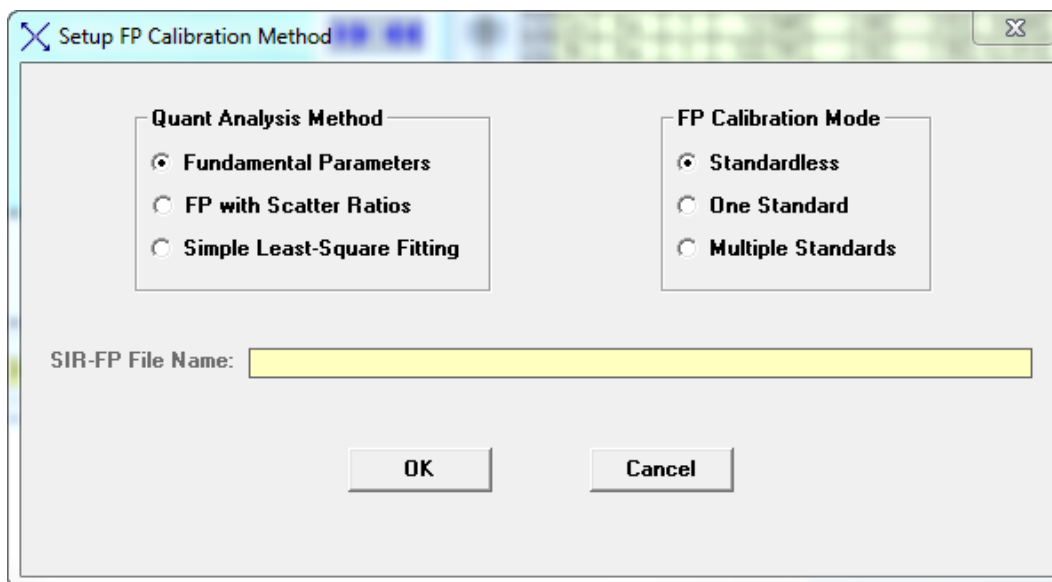

Figure 14. Setup Quant Dialog. Select the “Fundamental Parameters” method and the “Standardless” mode.
- Then select: **Setup -> Quant** from the XRS-FP Expert Panel. Check that the radio button for the “Quant Analysis Method” is set to “Fundamental Parameters” (FP) and the “FP Calibration Mode” is set to “Standardless” (see Fig. 14 below).